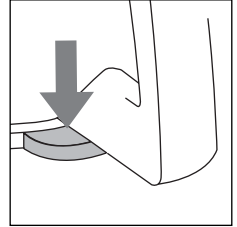

Fig.6
- Press the ON/OFF switch down (fig. 6) to switch the kettle on.